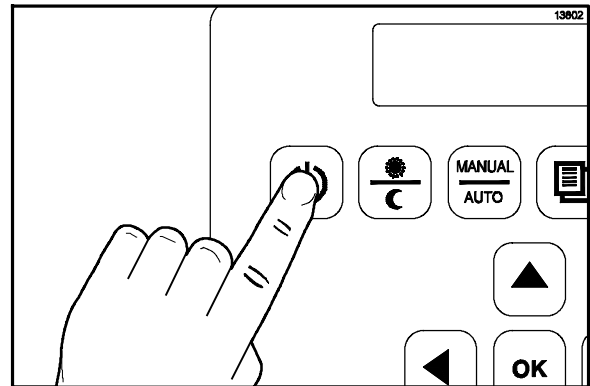

Figure 22
2. Heat up the grill by pressing the  key for 3 - 5 seconds. "AM TOO COOL" and "AM FOLDED EGGS - FLAT" will be displayed on the control screen. (See Figure 22.)